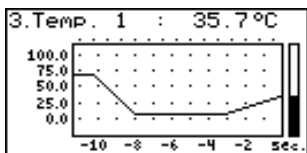

Fig. 6.6. "graph" mode
- **"Graph"** mode (Fig. 6.6) enables the momentary values or averaged values of measurements conducted for one of measurement channels to be viewed in the form of a graph.